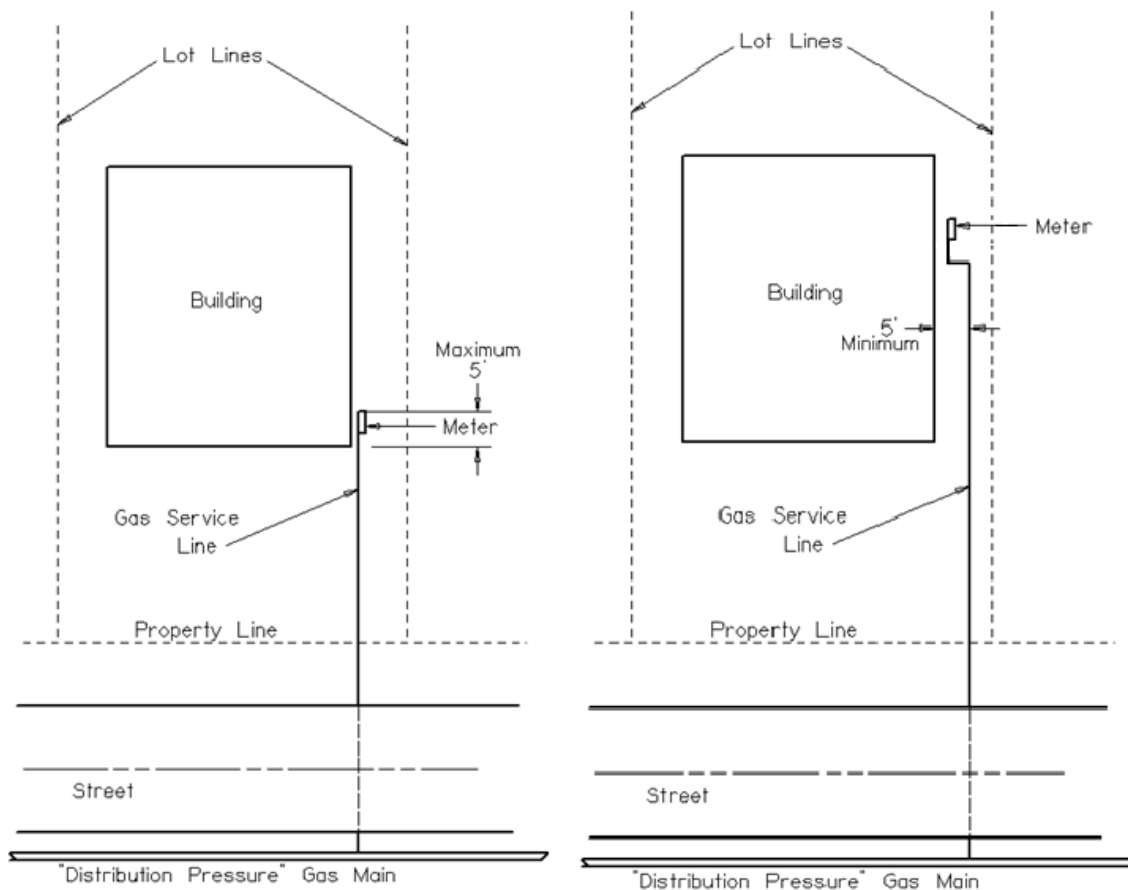

Figure 1.0 - Typical and Alternate Gas Service Installations
3. A gas service should be installed parallel to the lot line and at 90° to the main. If a lot line is not perpendicular to the main, a bend at the property line is allowed to keep the lot line and service parallel. If a bend is not practical, the entire service may be run parallel to the lot line (see Figure 1.0).